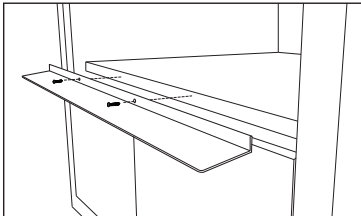

Figure 3A
2. Install deflector as shown in Figure 3A.